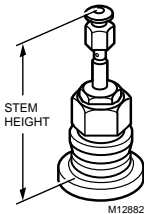

Fig. 2. Valve stem height measurement.
^bSee Fig. 2.
- Verify stem height, see Fig. 2 and Table 1.
- With the valve stem fully down, note the valve stem height, see Fig. 2.
- With the valve stem fully up, note the valve stem height, see Fig. 2.
9. Verify stem height, see Fig. 2 and Table 1.